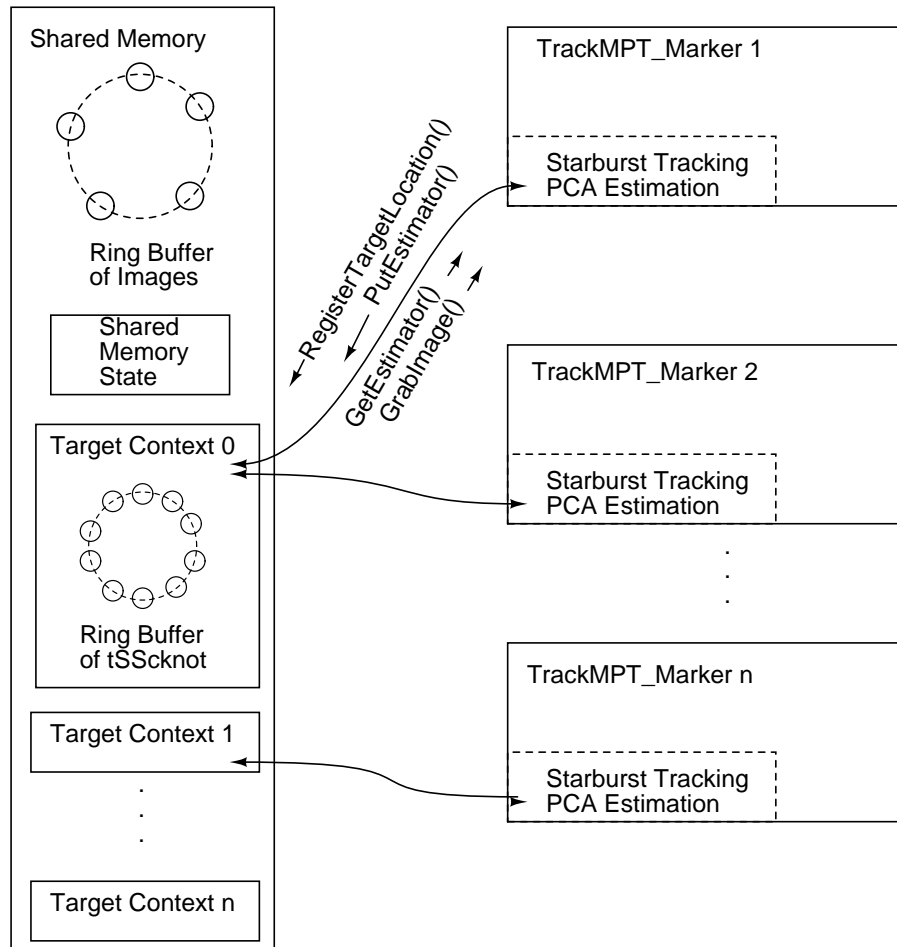

Figure 8: Block diagram of the real-time MPT system showing marker contexts in shared memory.
An MPT Marker Context is a data record in shared memory that is accessed by `TrackMPT_Marker` processes. The marker context is specific to the Marker ID Number, and all `TrackMPT_Marker` processes processing a specific marker access the marker context of that marker. Communication with the marker context is illustrated in figure 8. The marker context supports:
- When markers are detected and identified by their specific Marker ID Number, their location is recorded in the marker context with a call to function `RegisterMarkerLocation()`, seen in figure 8.